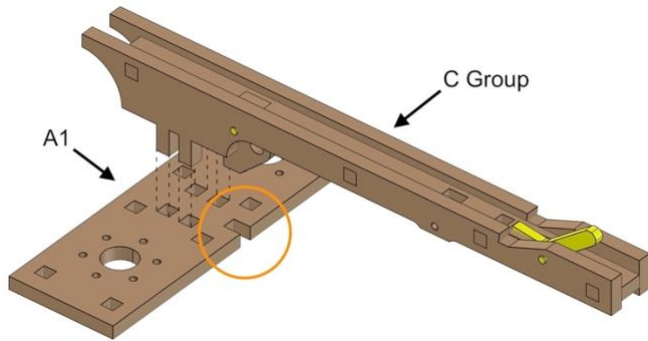

Fig. 13
- Align parts exactly as shown in *Fig. 13*.